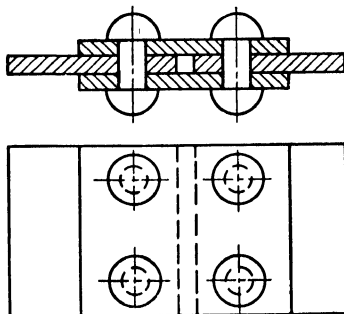

Fig. 235.—Double-plate butt joint, $\frac{1}{64}$ -in. steel rivets, driven hot.
5. Find the strength of the butt joint shown in Fig. 235.